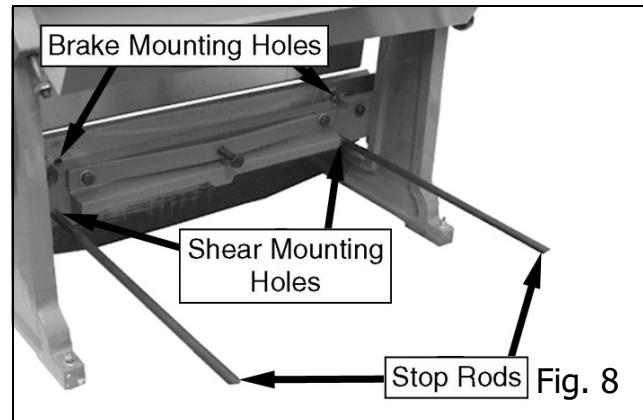

Fig. 8
5. Thread the rods into either the brake or sheer mounting holes, as shown in Figure 8. Only hand-tighten the rods.